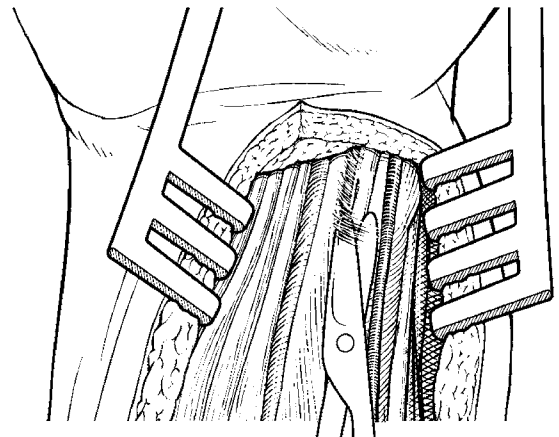

Fig. 6a
**REMARK:** Care should be taken to avoid complete detachment of the volar extrinsic ligaments of the wrist from the palmar lip of the radius (Fig. 6a-c).